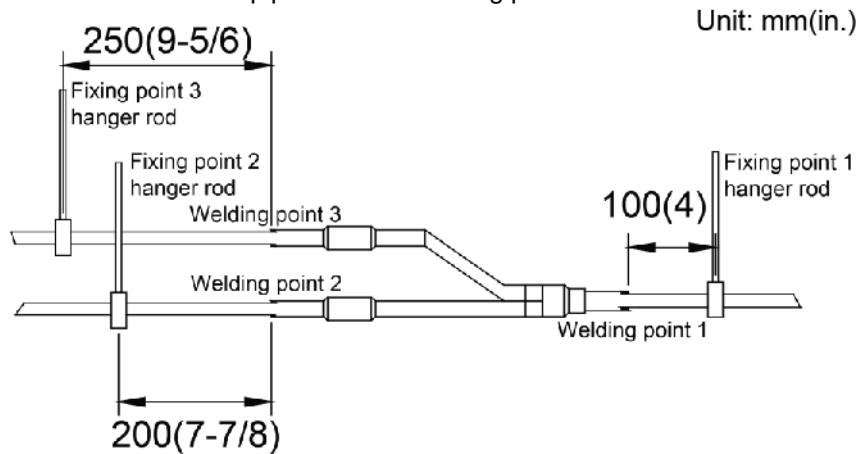

Fig. 34
- There must be three fixing point for both horizontal and vertical installation of the Y-type manifold. See Fig.34.